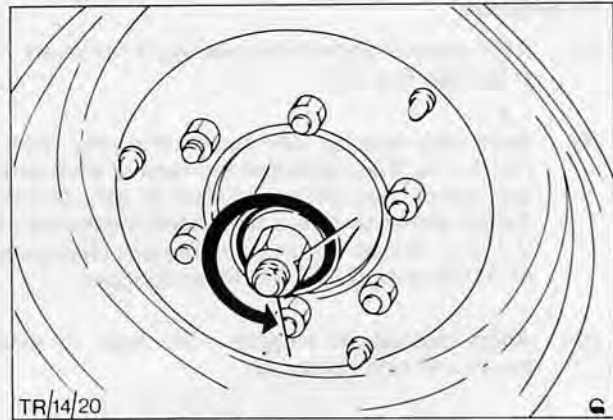

Fig. 20. Slacken nut $\frac{2}{3}$ turns
31. Slacken adjusting nut by four flats ($\frac{2}{3}$ turns), Fig. 20.